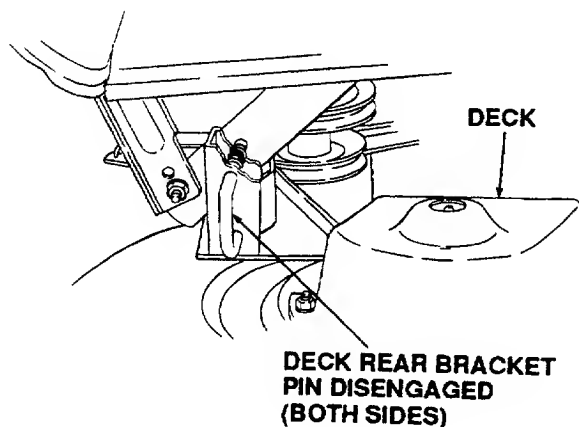

Figure 40
9. Pull the deck rear bracket pins outward, turn downward and release so both spring-loaded pins are held against the outside surface of the brackets in their disengaged positions. (Refer to Figure 40.)